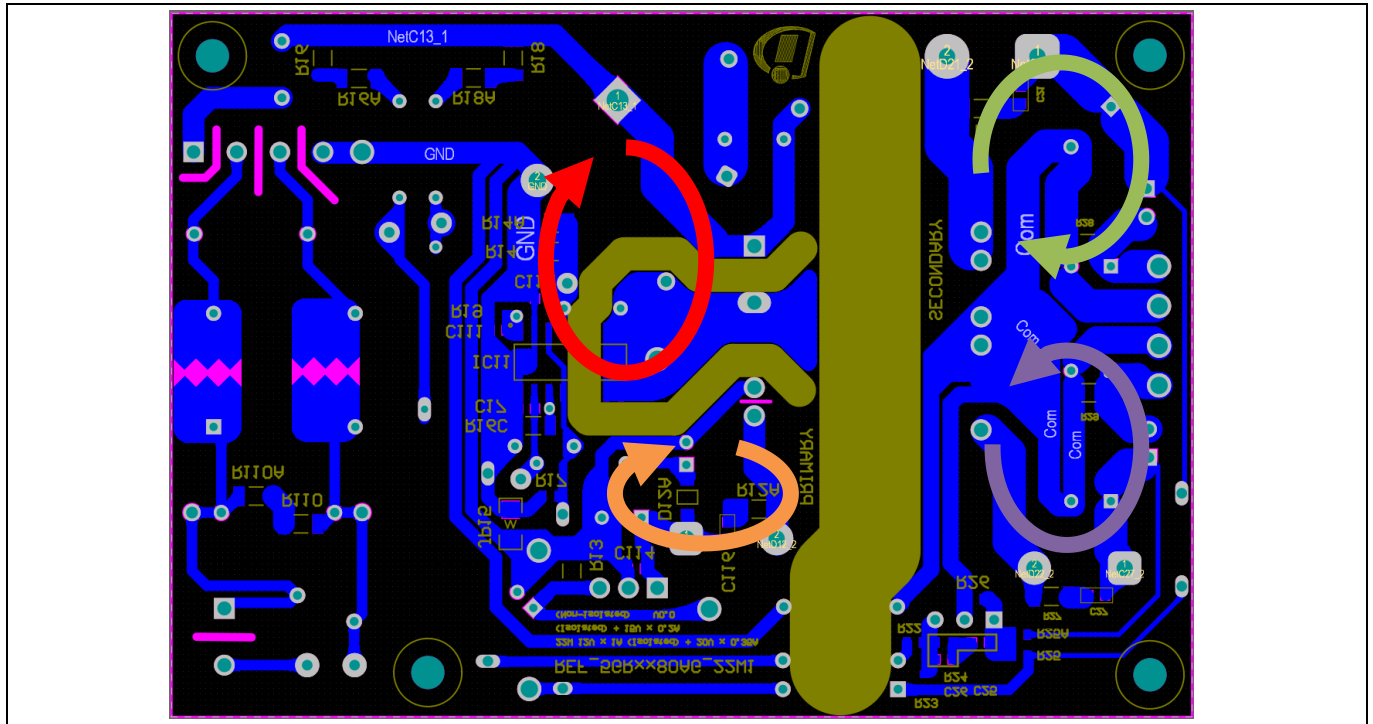

Figure 5 PCB layout tips
- The switching power loop needs to be as small as possible (see Figure 5). There are four power loops in the reference design; one on the HV side and three on the output side. The HV side loop starts from the bulk capacitor (C13) positive terminal, primary transformer winding (pin 1 and pin 3 of TR1), CoolSET™, CS resistors and back to the C13 negative terminal. The first output side loop (+12 V output) starts at the transformer winding (pin 14 of TR1), output diode D21, output capacitor C22 and back to pin 11 of TR1. The second output side loop (+18 V output) starts at the transformer winding (pin 6 of TR1), output diode D12, output capacitor C113 and back to pin 5 of TR1. The third output side loop (+20 V output) starts at the transformer winding (pin 7 of TR1), output diode D22, output capacitor C28 and back to pin 11 of TR1.